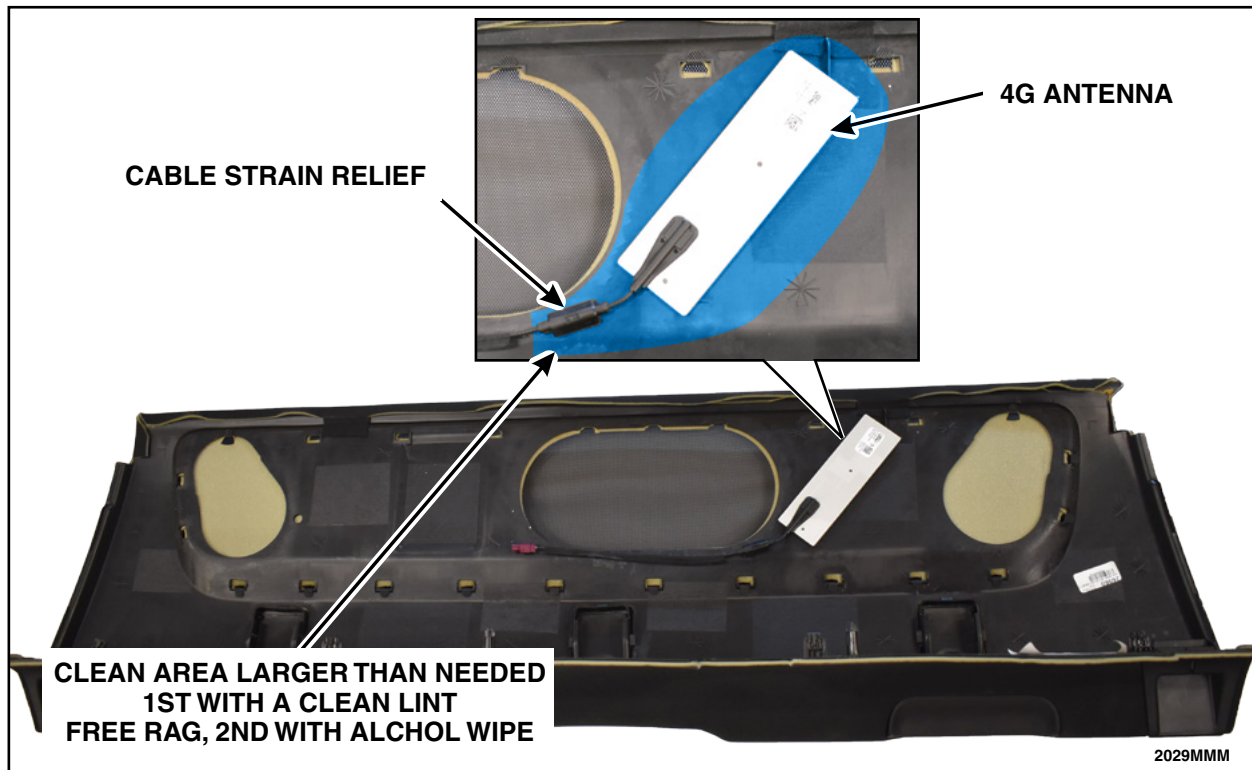

FIGURE 2
3. Install the *new* 4G antenna. See Figure 2.